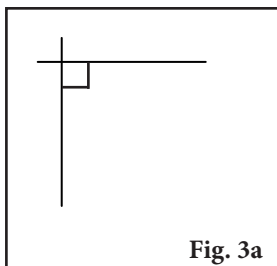
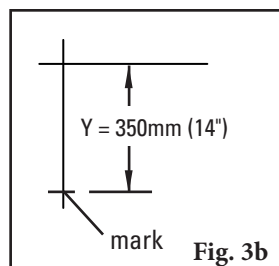
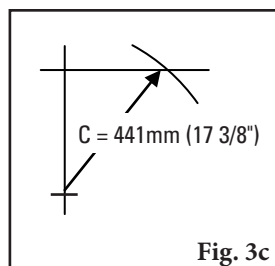
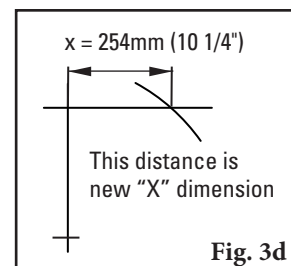

Fig. 3a
Fig. 3b
Fig. 3c
Fig. 3d
- 2. Determine final dimension.** On a flat vertical surface, using a level, draw one horizontal line and one vertical line creating a right triangle (Fig 3a). Measure down from the intersection the determined “Y” dimension and mark (Fig 3b). With the tape measure starting at the modified “Y” mark, swing the tape across the “X” line and mark at the “C” dimension where it crosses the “X” line (Fig 3c). Measure from the intersection to the “C” intersection and this will be your new “X” dimension (Fig. 3d).